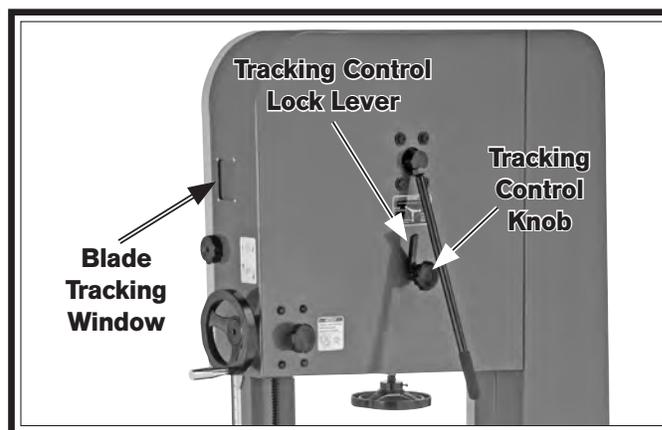

Figure 34. Fine-tune tracking controls.
3. If necessary, loosen tracking control lock lever and use tracking control knob (see **Figure 34**) to adjust the blade so it tracks on the center of the wheel.
4. Tighten tracking control lock lever (see **Figure 34**) to secure setting, then turn machine **OFF**.